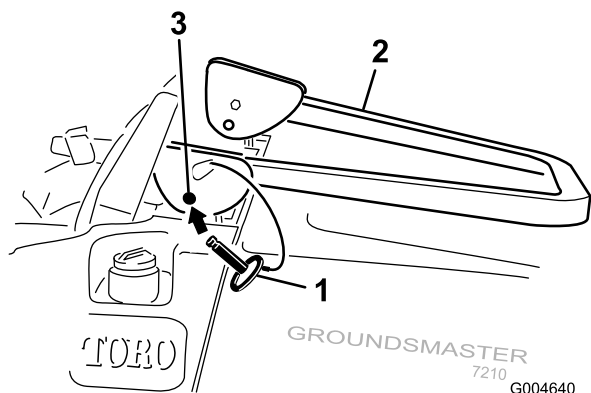

Figure 43
2. Lower the roll bar to the down position (Figure 43).